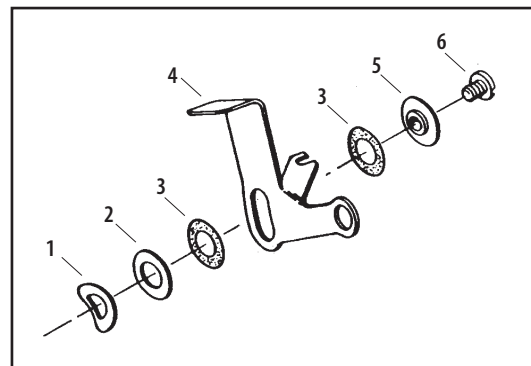

Figure 1
- 2 – Install the fast idle lever assembly as shown in **Figure 1**. Apply a small amount blue threadlocker to the threads of the screw and thread into the backplate. Be careful not to over tighten.